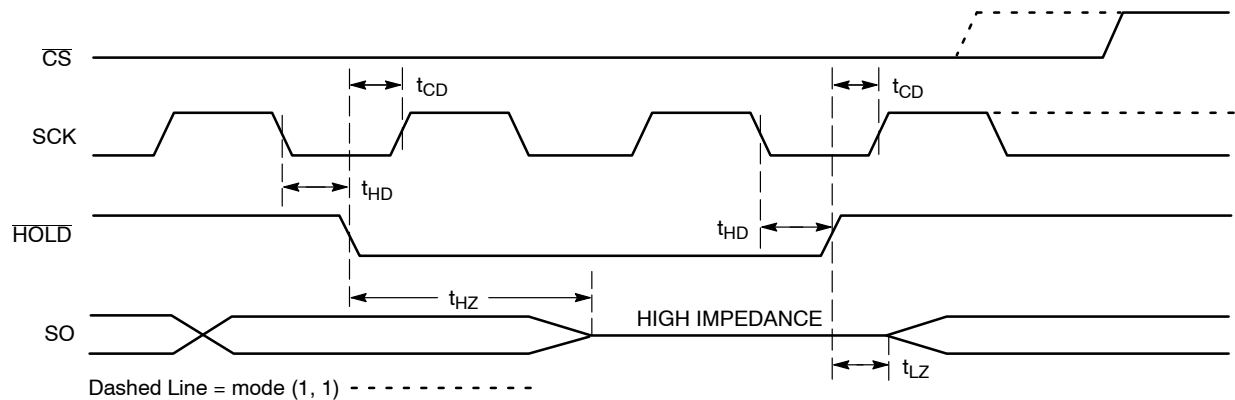

Figure 11. $\overline{\text{HOLD}}$ Timing
The $\overline{\text{HOLD}}$ input can be used to pause communication between host and CAV25256. To pause, $\overline{\text{HOLD}}$ must be taken low while SCK is low (Figure 11). During the hold condition the device must remain selected ($\overline{\text{CS}}$ low). During the pause, the data output pin (SO) is tri-stated (high impedance) and SI transitions are ignored. To resume communication, $\overline{\text{HOLD}}$ must be taken high while SCK is low.